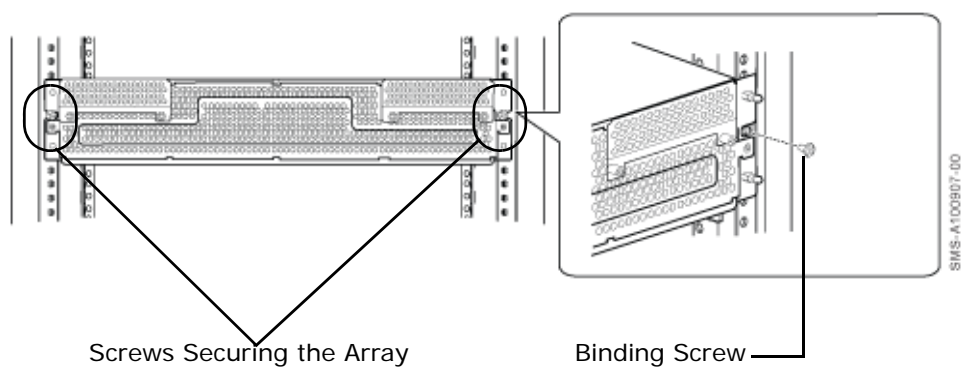

Figure 3-3: Example of Securing the Array to a Rack
3. With help from another person, position and hold your Hitachi Simple Modular Storage 100 in the rack. Then secure the array to the rack frame using M5×10 binding screws (one screw at the right and left sides of the array, as shown in Figure 3-3). For more information, refer to the manual for your mounting hardware and rack.